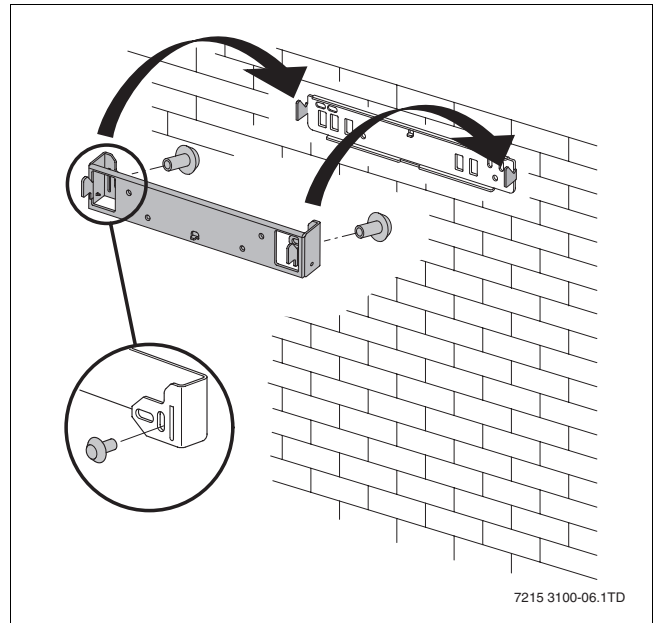

Fig. 6 Hanging the wall-spacing bracket
- Mount the rubber stops in one of the wall-spacing brackets and hang this on the wall bracket (→ fig. 6).
Key to fig. 6